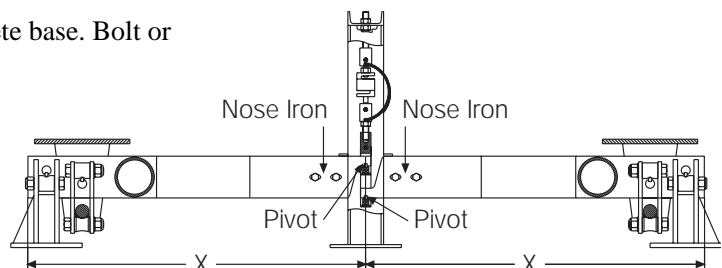

Figure 3: Nose Iron Adjustment
11. Adjust the nose irons in their bolt slots (see Figure 3) so the distance (X) from each nose iron pivot to the end of its lever is the same. Tighten the nose iron bolts securely.